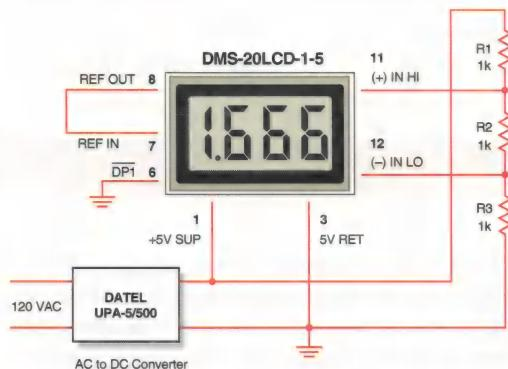

Figure 3. Differential Input Configuration
2. Differential Input Configurations: Differential measurements can be made with either 5V-powered or 9V-powered meters. Figure 3, though not a practical real-world application, uses a voltage divider to demonstrate the concept of a differential input signal. Be careful not to exceed the $\pm 2V$ common mode voltage limitation for 5V powered meters.